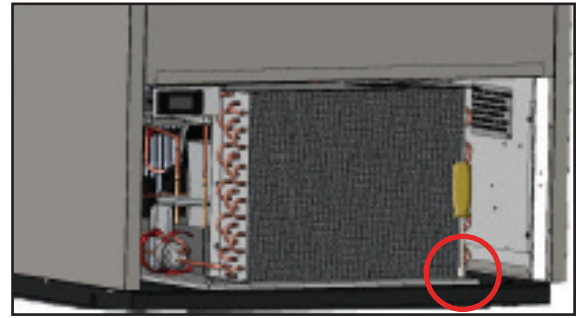

Fig. 5. Remove the bolts securing the condenser base.
6. Remove the condenser base bolts. See fig. 5.